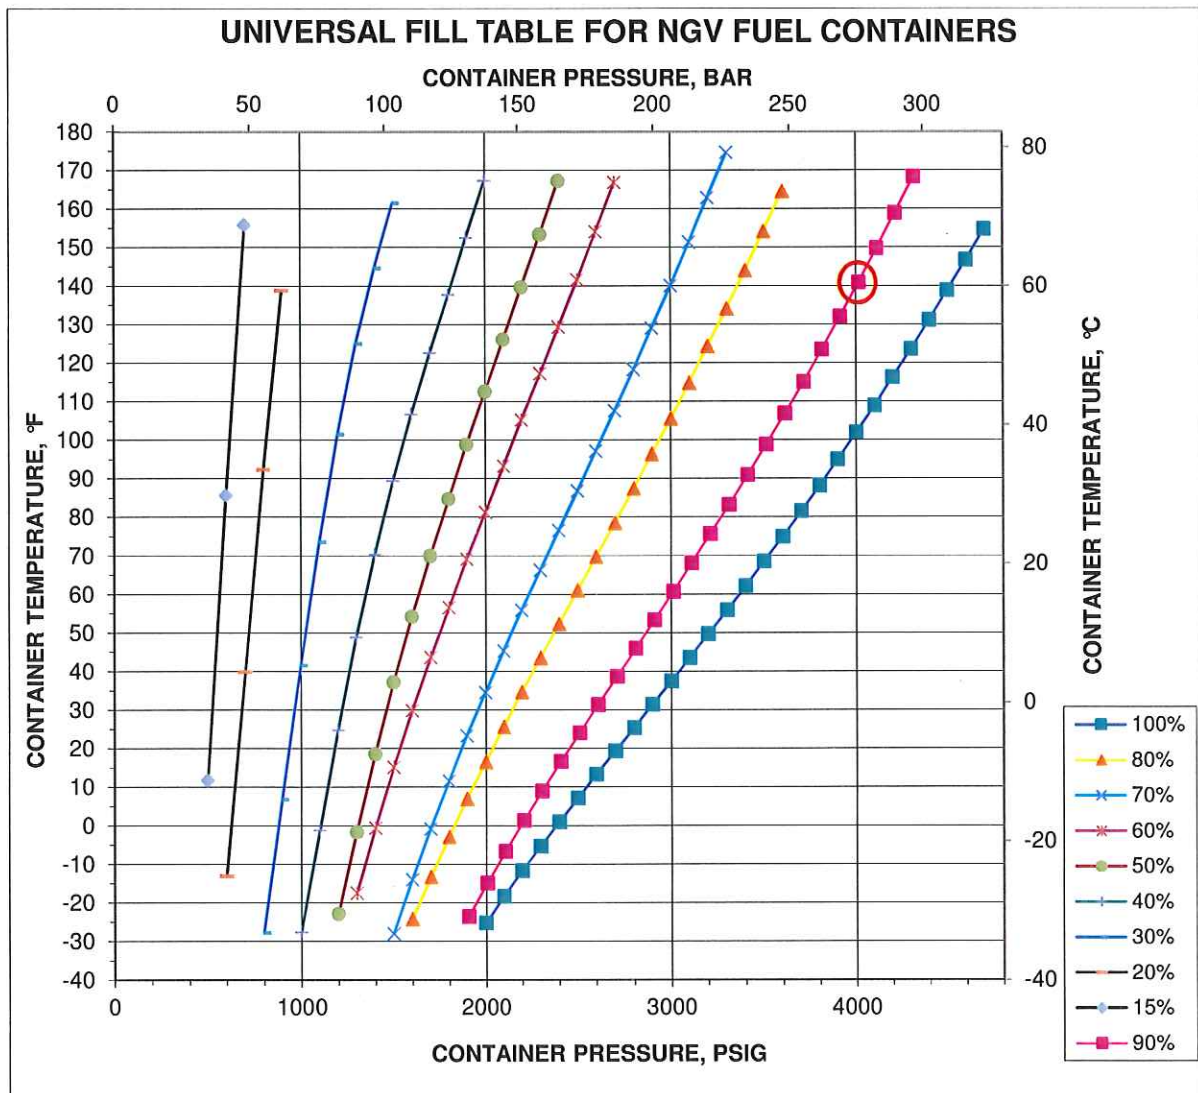

Figure 9: Percent Fill as a Function of Temperature and Pressure (SG = 0.58)
This system is designed to a service pressure of 250 bar (3626 psig) settled at 15°C (59°F). The maximum fill pressure is 303 bar (4400 psig); with a maximum fill gas temperature of 82.2°C (180°F). Thus when filling the TITAN® it is filled to a density because pressure is dependent on gas temperature, and typically the gas temperature is in excess of the settled temperature of 15°C (59°F). The fill chart shown in Figure 9 specifies what pressure the vessels may be filled to given the internal gas temperature.
The system is designed to operate within a temperature range of -40°C to 82.2°C (-40°F to 180°F). The gas temperature range for a complete temperature compensated fill is -40°C to 65°C (-40°F to 149°F). The owner is responsible for following fill chart requirements in Figure 9 for temperature range to be valid.
12. Continue filling the cylinder(s) until the pressure indicated by the manifold pressure gauge reaches the desired pressure. Do not exceed the maximum fill pressure/temperature combinations as shown in Figure 9. Figure 9 may also be used when performing temperature compensated fills. For example, when filling to 276 barg (4000 psig) and approximately 60 °C (140 °F) as shown by the red circle in Figure 9 this will result in a 90% fill.
The fill chart shown in Figure 9 gives the maximum pressure that each cylinder is to be filled at for certain natural gas temperatures.
Many compressor stations are not capable of achieving a full fill because of the high gas temperatures and limited upper pressure of 250 barg (3600 psig). In many cases a compressed gas cooling system must be installed to achieve a full fill. This may result in a multi-stage filling process to achieve the full fill of the module. Refer to Figure 9 to determine the level of fill that will be achieved.